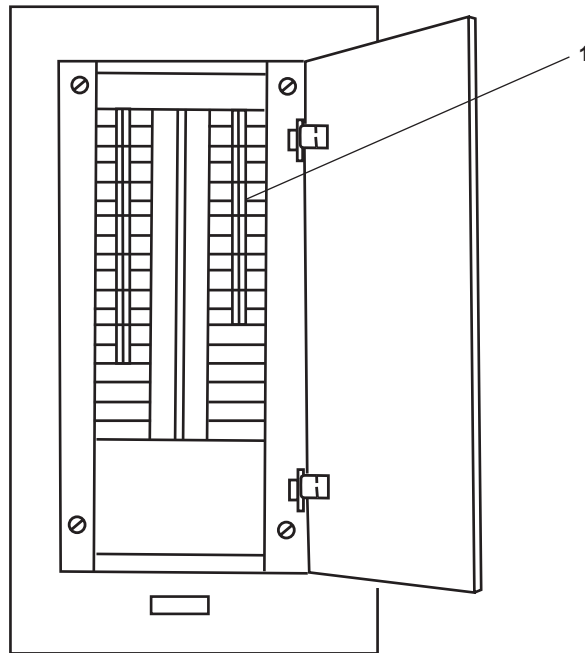

Figure 3. 120V Emergency Distribution Panel No. 1
4. At 120V emergency distribution panel No. 1, set the TLI SYSTEM circuit breaker (figure 3, item 1) to OFF.